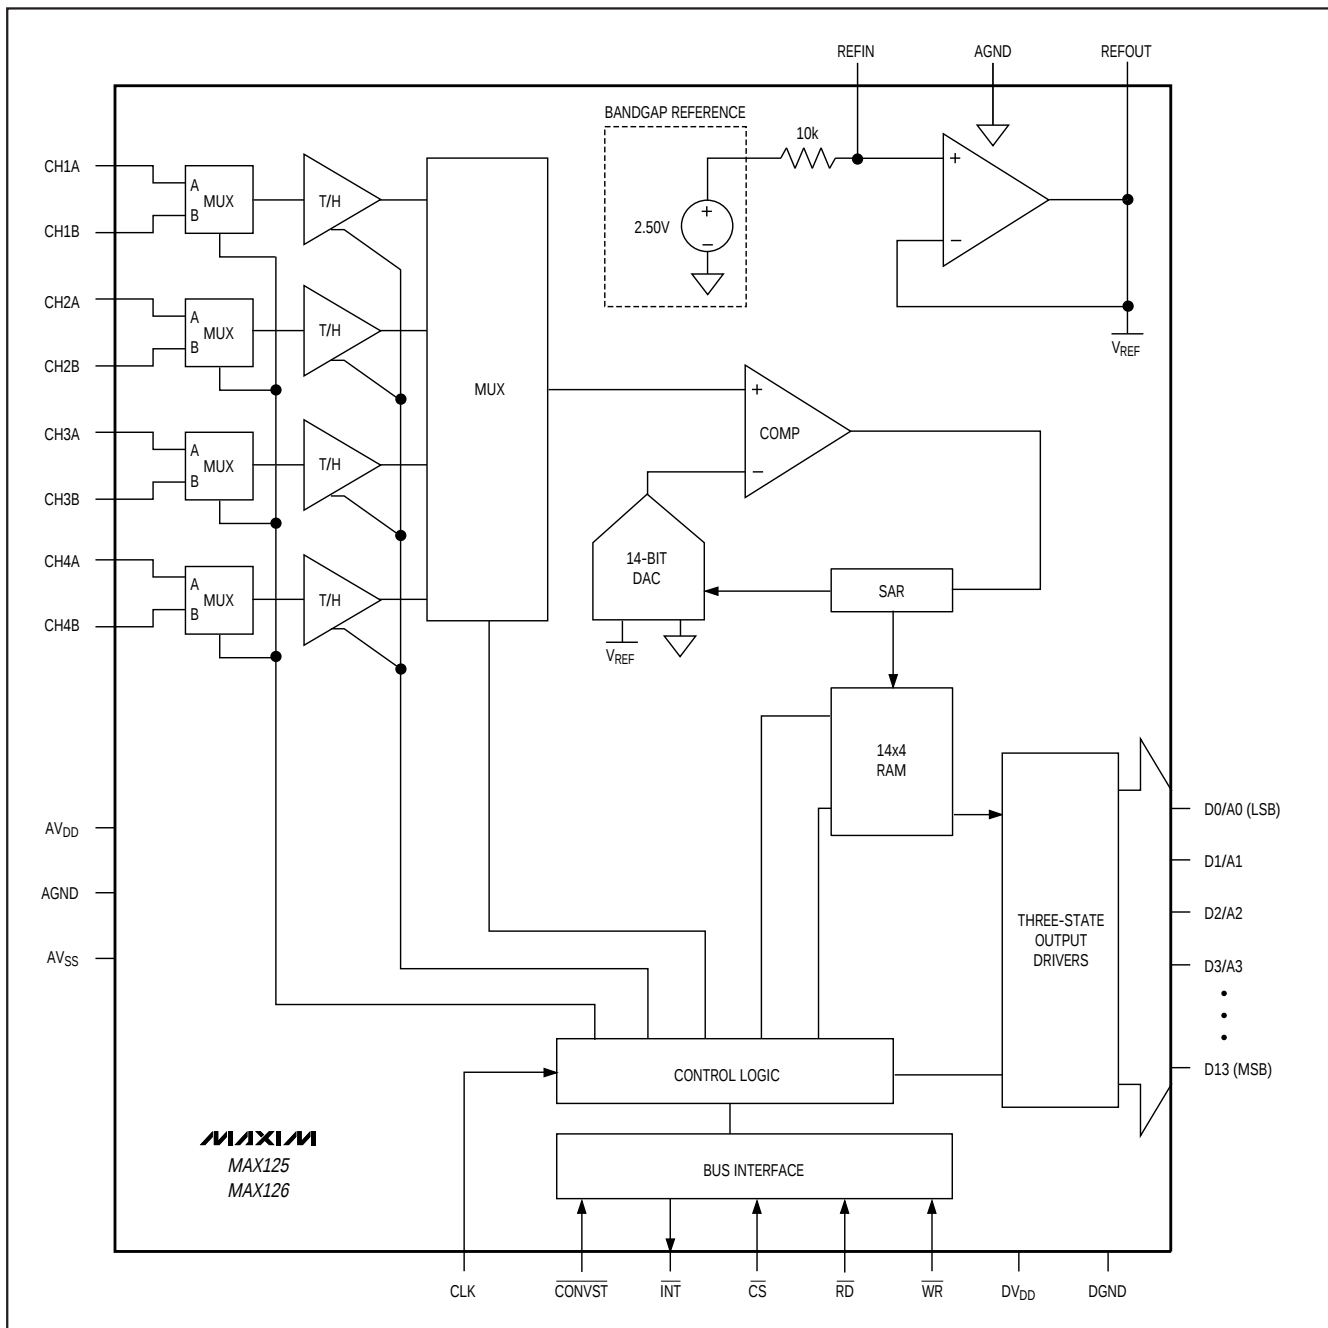

Figure 2. Functional Diagram
**Note 10:** See Figure 2.
The MAX125/MAX126 use a successive-approximation conversion technique and four simultaneous-sampling track/hold (T/H) amplifiers to convert analog signals into 14-bit digital outputs. Each T/H has two multiplexed inputs, allowing a total of eight inputs. Each T/H output is converted and stored in memory to be accessed sequentially by the parallel interface with successive read cycles. The MAX125/MAX126 internal micro-sequencer can be programmed to digitize one, two, three, or four inputs sampled simultaneously from either of the two banks of four inputs (see Figure 2).
The MAX125/MAX126 have eight conversion modes plus power-down, which are programmed through a bidirectional parallel interface. At power-up, the devices default to the mode *Input Mux A/Single-Channel Conversion*. The user can select between two banks (mux inputs A or mux inputs B) of four simultaneously-sampled input channels, as illustrated in Figure 2. An internal microsequencer can be programmed to convert one, two, three, or four channels of the selected bank per sample. For a single-channel conversion, CH1 is digitized, and then INT goes low to indicate completion of the conversion. For multichannel conversions, INT goes low after the last channel has been digitized.